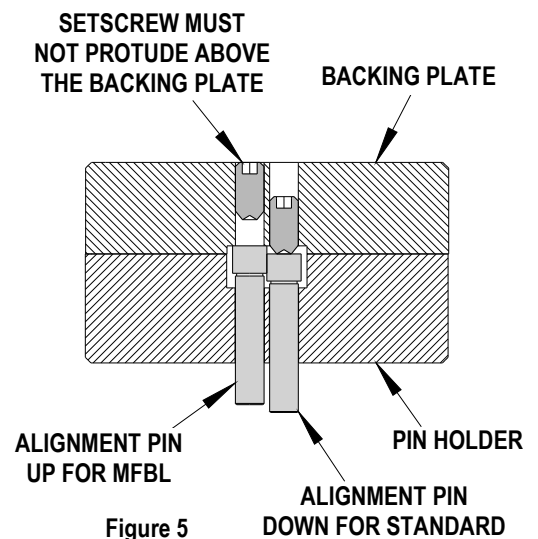

Figure 5
When Micro-Fit Headers with the *Make-First-Break-Last* mating pins, the tool is assembled with the recessed pocket in the backing plate positioned as shown in Figure 5. Certain Headers have varying lengths of mating pins. In these cases, the alignment pin must be adjusted up or down.
1. Remove the (4) M3 screws from the backing plate.
4. Replace the backing plate and replace the (4) screws. Be sure the backing plate is assembled correctly to the pin holder shown in Figure 5.